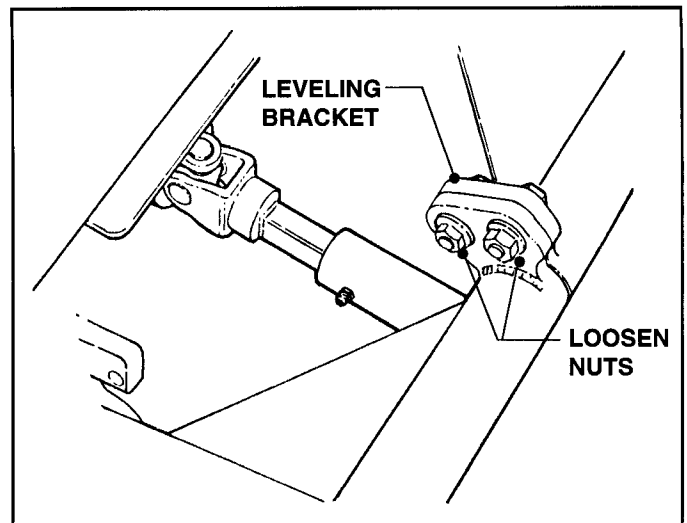

FIGURE 8.8
4. Loosen Leveling Bracket at center Rear Deck support. See Figure 8.8. This allows the Lift Arm to settle down into Hitch Brackets.